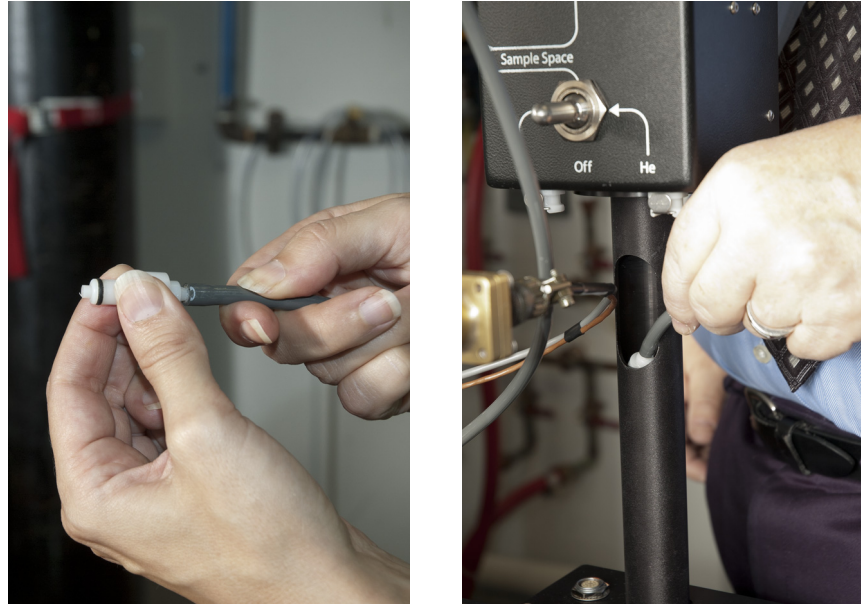

FIGURE 3-30 *Left: Attaching the coupler to the gas line;
5. Obtain the He and/or Ar gas line and the supplied clippard hose coupler. Push the hose coupler onto the gas line to connect them (FIGURE 3-30).
6. Insert the gas supply end of the He and/or Ar gas line into the oval-shaped hole on the sample space gas handler post and pull it through the bottom (FIGURE 3-30).